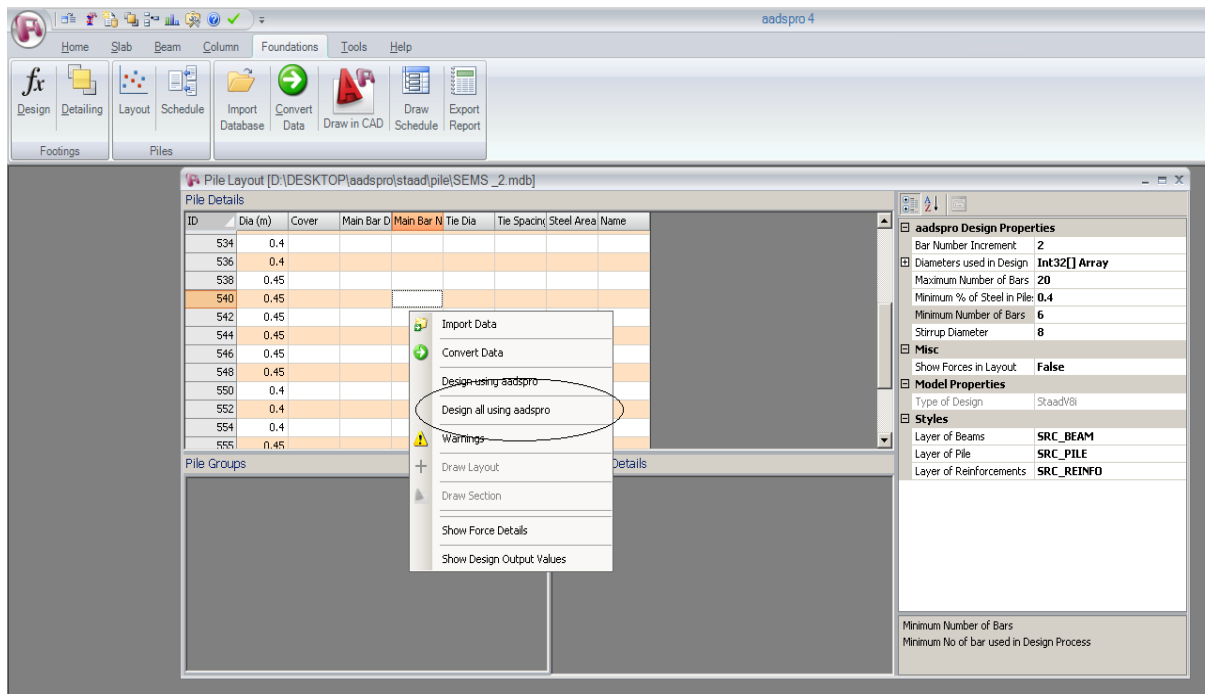

Fig 5.2.2
3. By Right click **Design all using aadspro** from the bar (Fig 5.2.2)